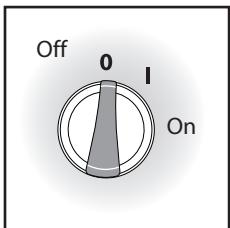

Fig. 21
- When your pressure washing session has been completed, turn off the power switch located on the front of the power washer (Fig. 21). Unplug the power cord from the outlet. Turn off the water supply. Pull the trigger on the spray gun 2-3 times to drain out the excess water and to release any remaining water pressure. Disconnect the garden hose adapter from the water inlet. Do not allow the power washer to run with no water flowing through it.